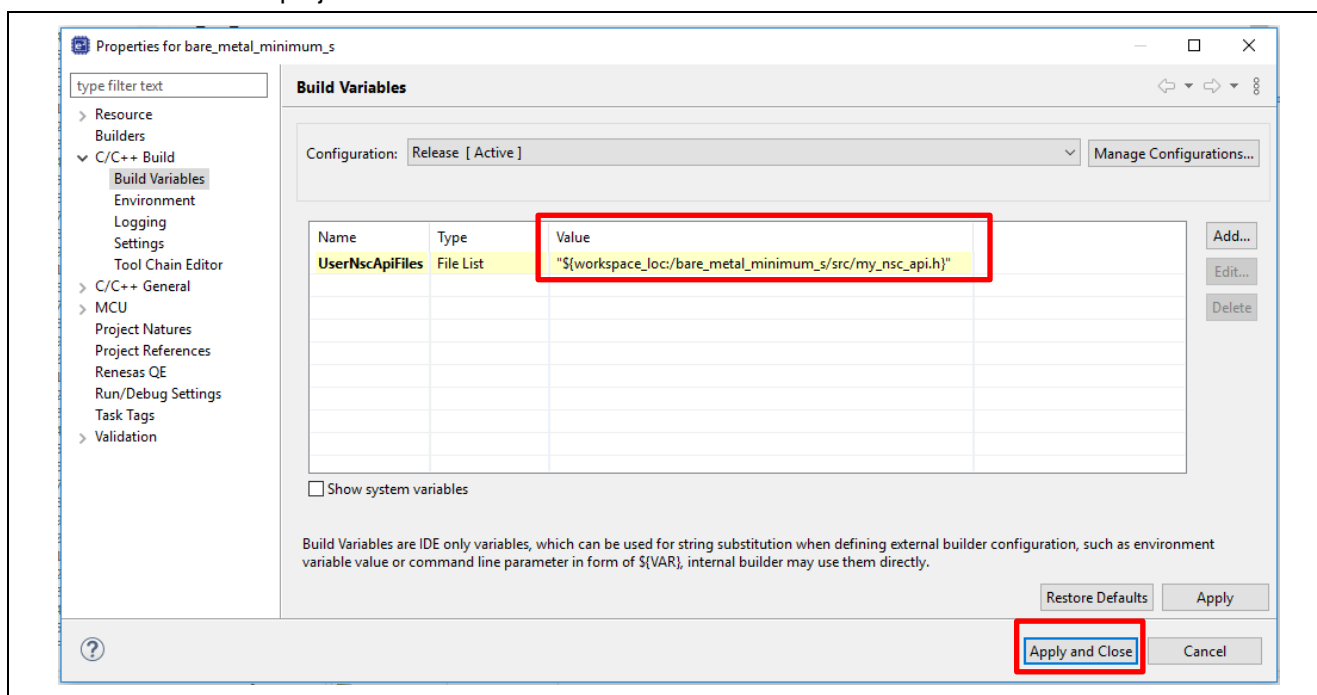

Figure 13. Link User-Defined Non-secure Callable API Header File
3. Include the path to the NSC header using the Build Variable as shown in Figure 13.